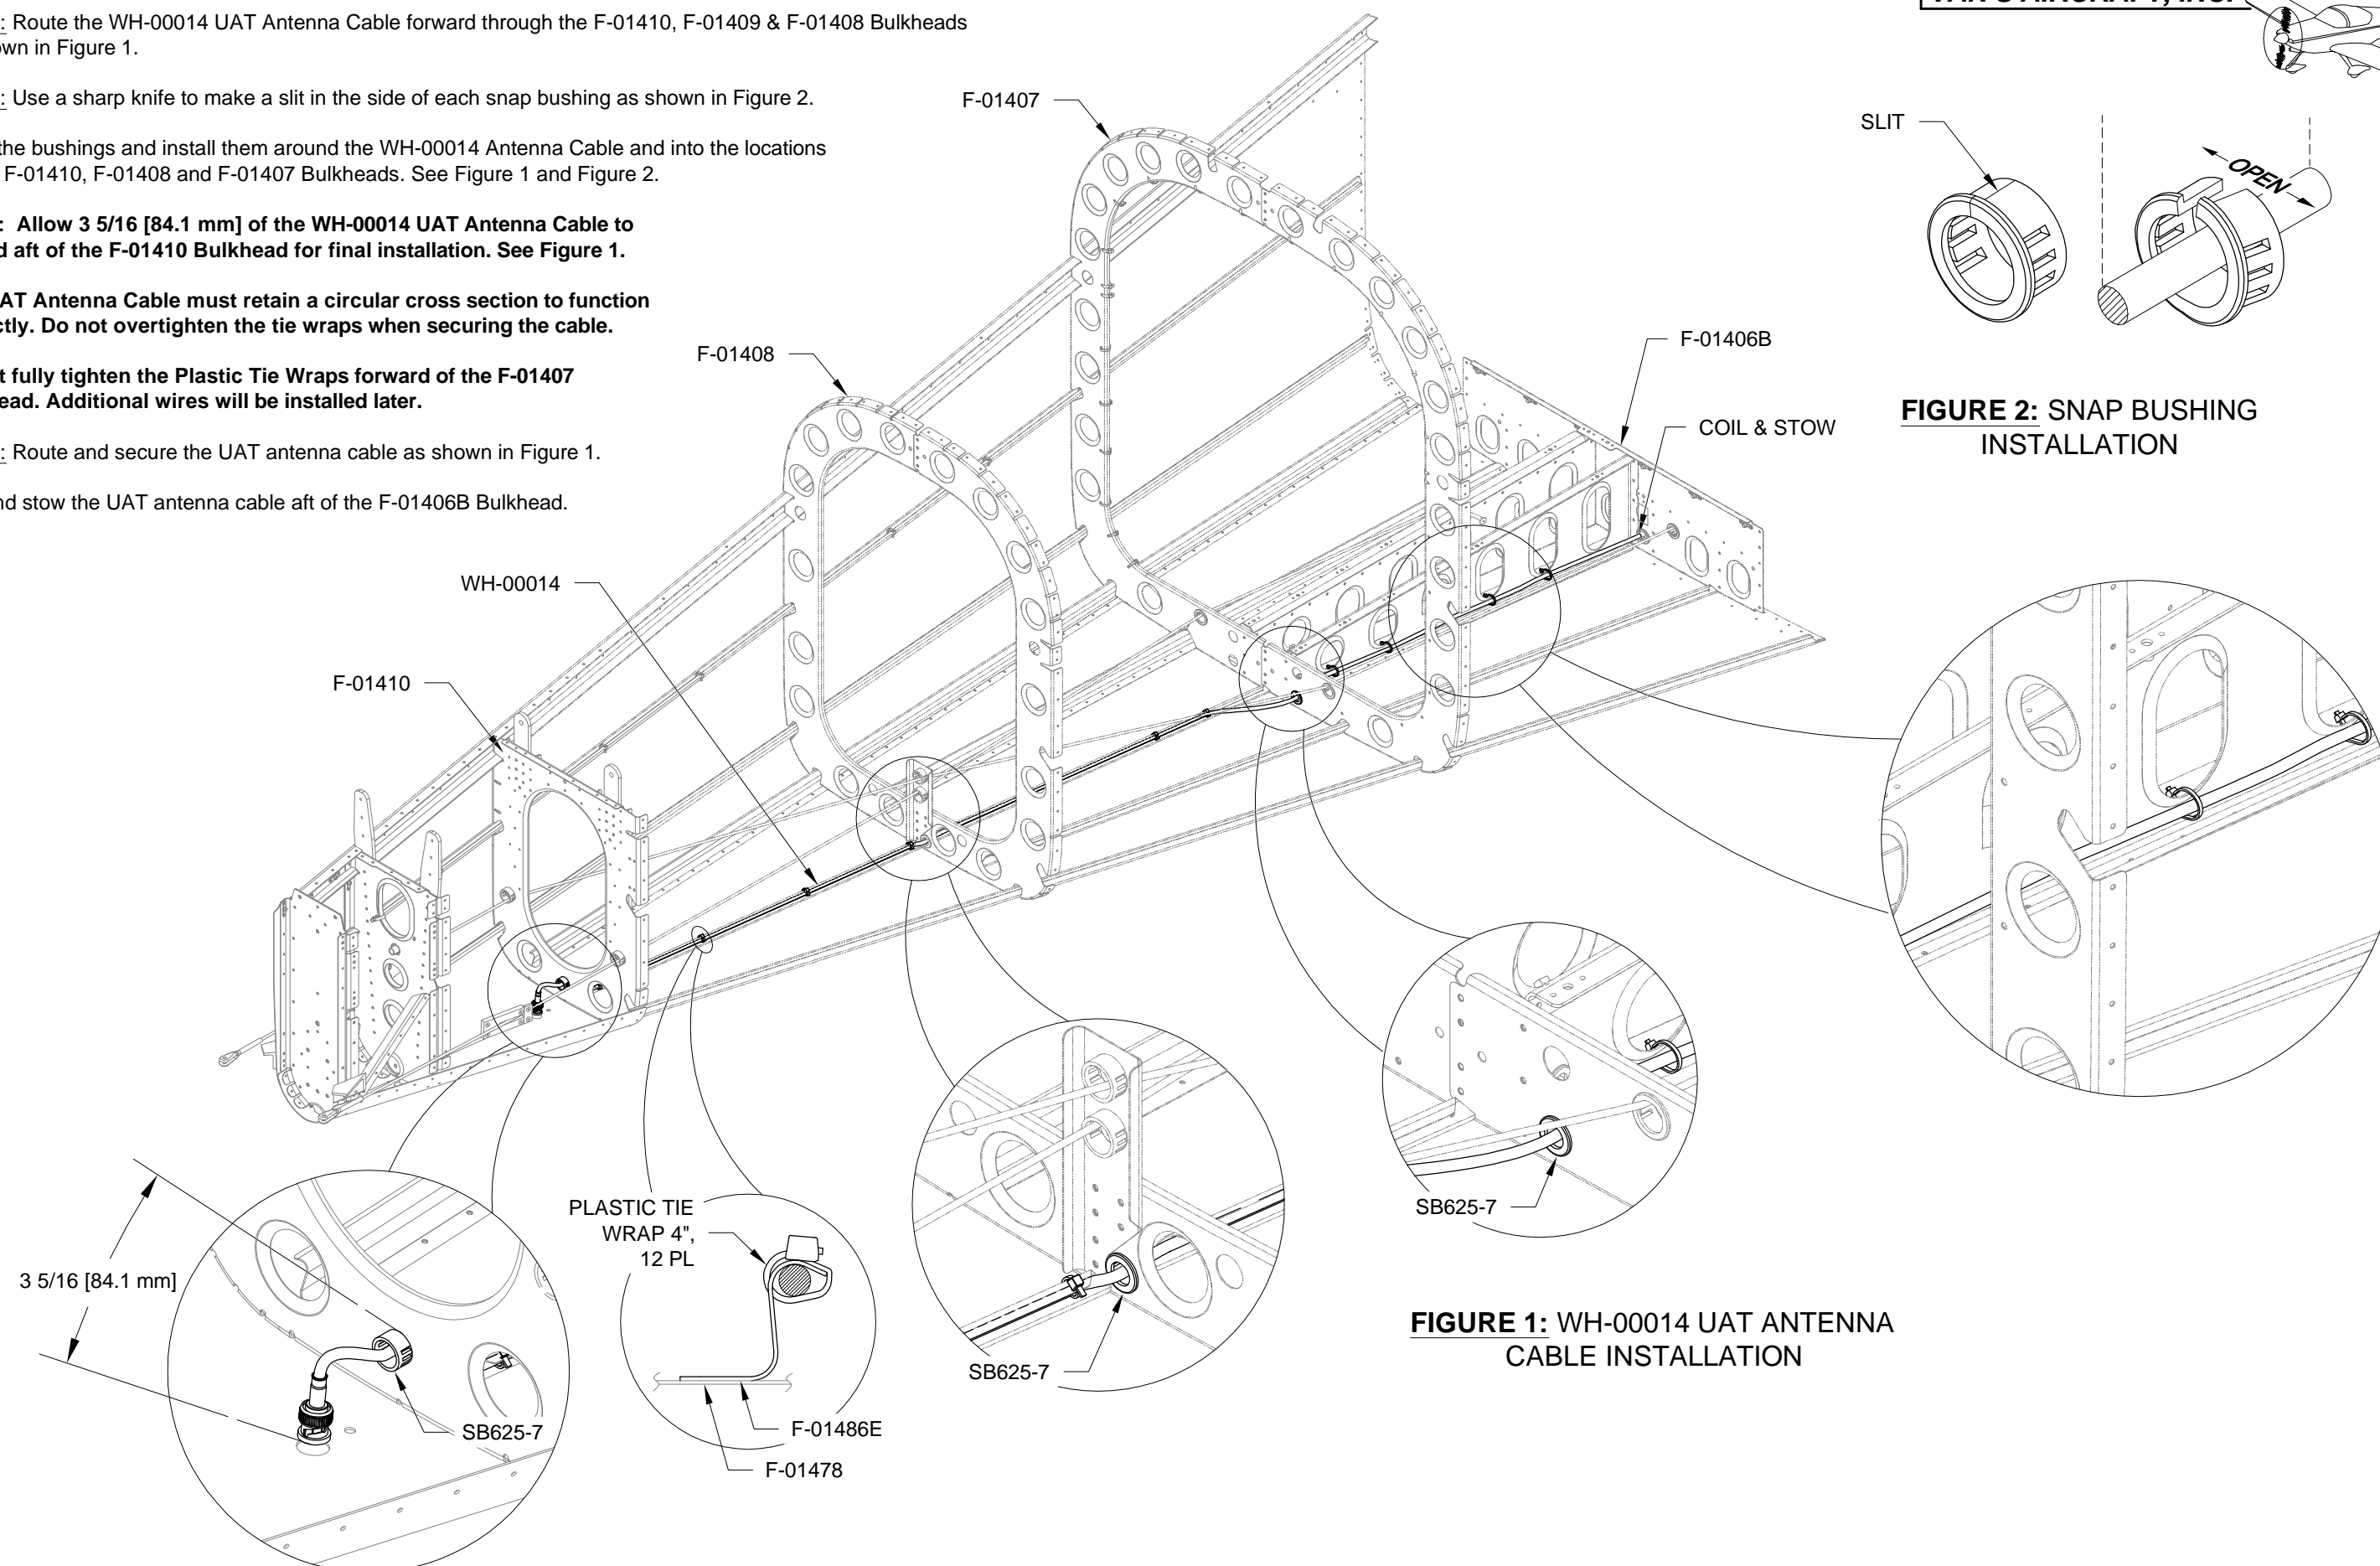

FIGURE 1: WH-00014 UAT ANTENNA CABLE INSTALLATION
Step 1: Route the WH-00015 ELT Antenna Cable forward through the F-01408 and F-01407 Bulkheads as shown in Figure 1.